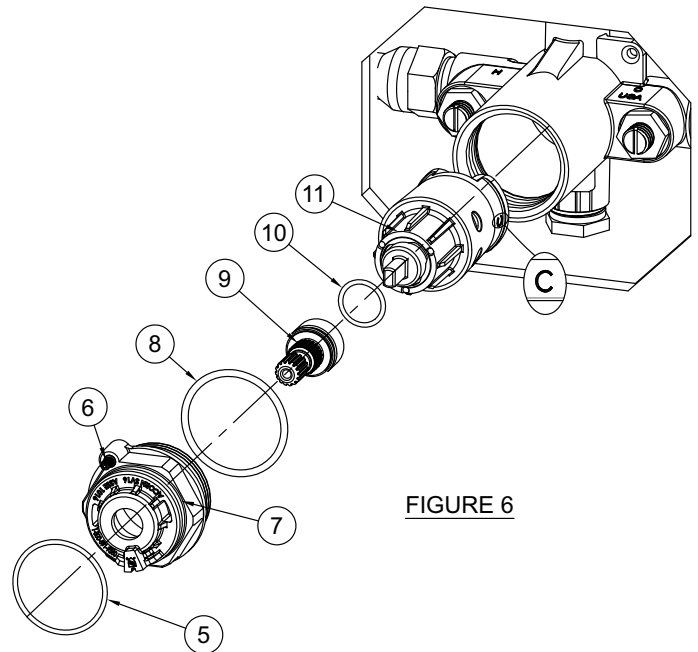

FIGURE 6
11. Inspect valve bonnet **set screw 6** and ensure it is in the backed out position. Slide bonnet **O-ring 8** over threaded area on bonnet and seat in groove. See **Figure 6**.